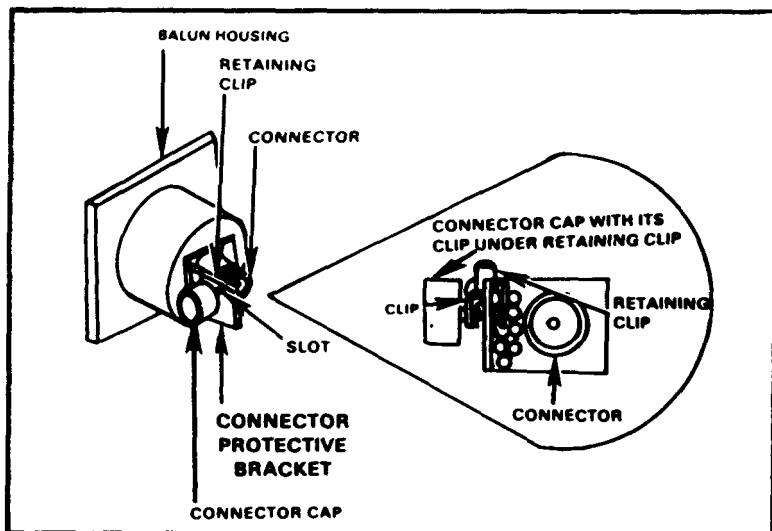

Figure 3-11. Captivating feed cone assembly connector cap.
a.	Unscrew the connector cap of the feed cone assembly connector and secure the cap to the connector protective bracket (Figure 3-11).